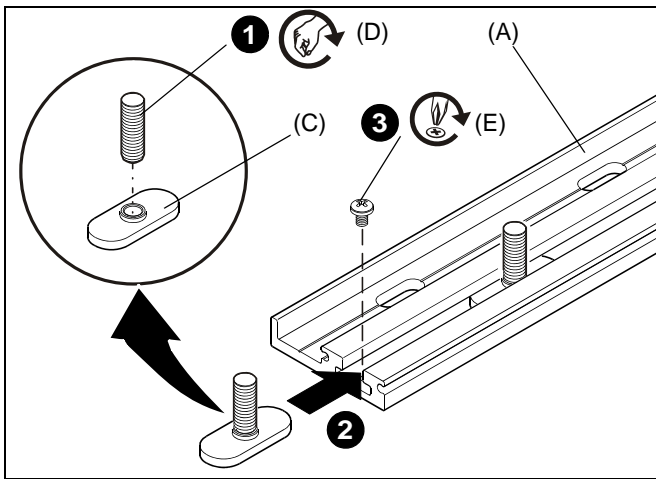

Figure 1
1. Assemble all 5/16-18 x 1" threaded studs (D) that are going to be used to 5/16-18" T-Slot nuts (C).
2. Slide T-Slot nut assemblies to be used into bracket (A) channel.
3. Install two #8 x 1/4" self tapping screws (E) into bracket (A) ends. (See Figure 1)